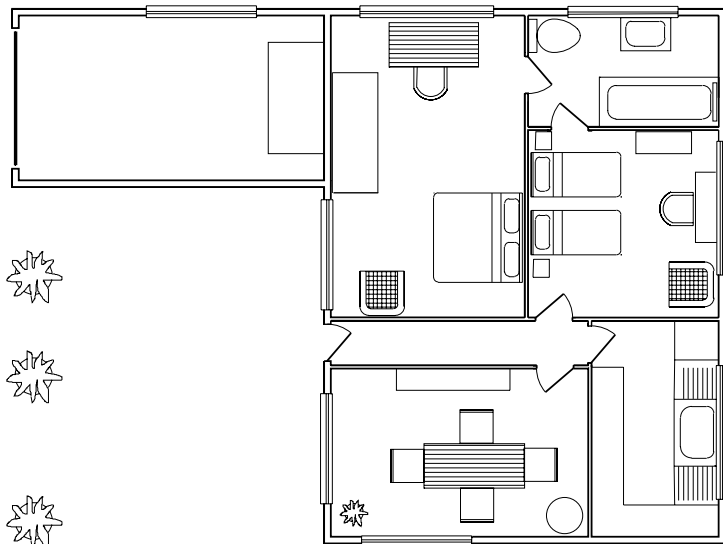

Fig. 9.8 Example – first method of inserting blocks
4. Insert all necessary blocks and add other details as required to the plan outline drawing. The result is given in Fig. 9.8.
Take the drawing in Fig. 9.8 (page 146) as an example. If all the blocks are purged from the drawing, the file will be reduced from **145** Kbytes to **67** Kbytes when the drawing is saved to disk.